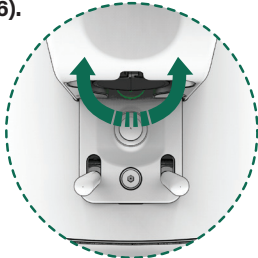

Fig. 6
4. To move the nozzle forth turn the wheel (17) clockwise, and back counterclockwise (Fig. 6).